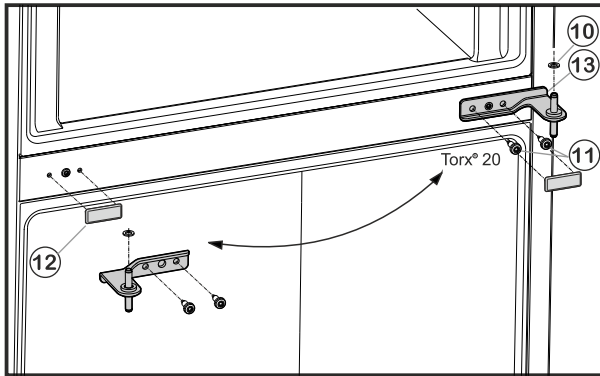

Fig. 6
- Unscrew the fastening screws *Fig. 6 (11)* (2 x Torx® 20) and pull the centre bearing block out of the lower door.
- Remove plastic washer *Fig. 6 (10)*.
- Remove the cover *Fig. 6 (12)* carefully.
- Re-install the cover *Fig. 6 (12)* on the opposite side.
- Insert the centre bearing block *Fig. 6 (13)* turned through 180° into the lower door and fasten firmly (**with 4 Nm**) to the new hinge side with the fastening screws *Fig. 6 (11)* (2 x Torx® 20).
- Refit plastic washer *Fig. 6 (10)*.
- Set the upper door down on the centre bearing block *Fig. 6 (13)*.